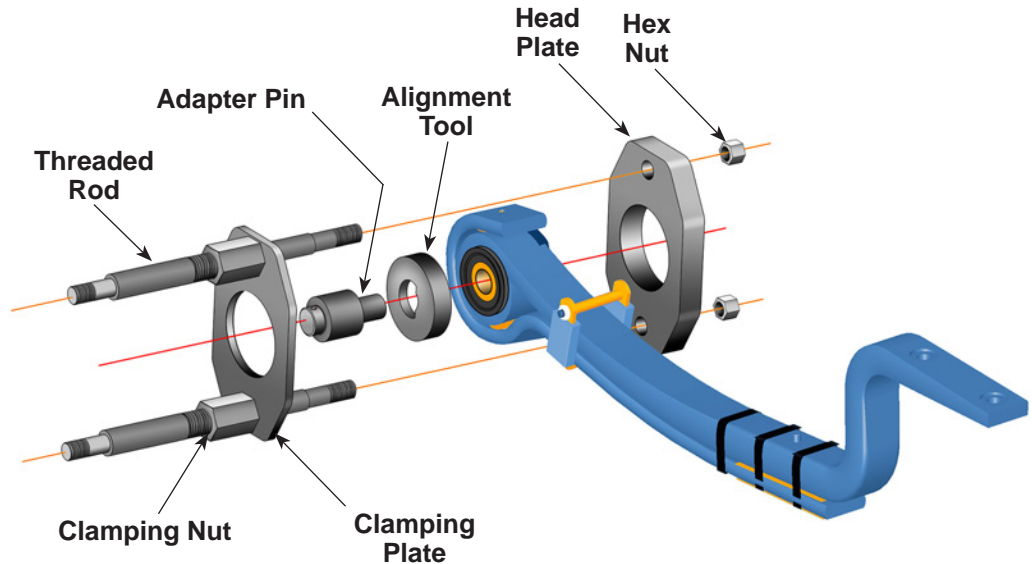

Figure 1
1. Insert the *adapter pin* through the *alignment tool* and into the pivot bushing hole as shown in Figure 1.